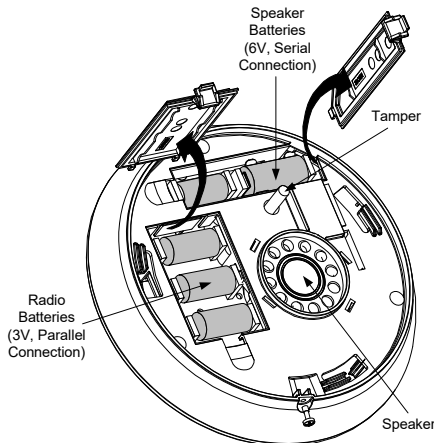

Fig. 3
5. Insert the supplied batteries into the battery chambers (speaker and radio) paying attention to the polarity (Fig 3).
4. Insert two speaker batteries into the batteries chamber (Fig. 3).
| Power Supply | 5 X CR123, 3V Lithium Battery (3 batteries for the Radio Transceiver, 2 batteries for the Speaker (see Fig. 3 on page 4) |